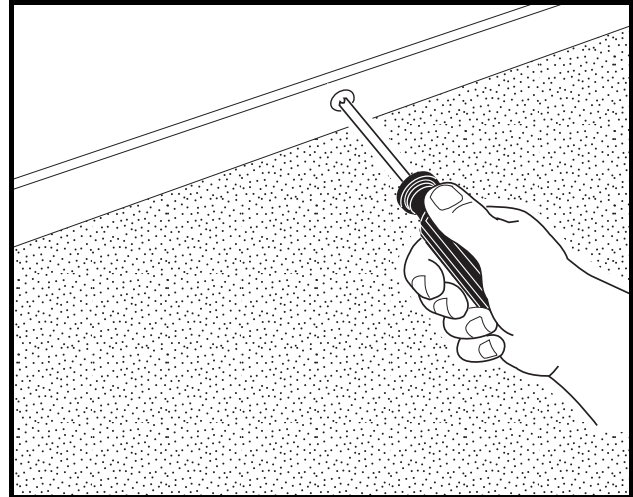

Figure 4-19 Kick-Plate Screws
5. Remove two screws, washers and nuts located at the bottom edge of the seat support panel (in kick-plate just above the floor mat) (**Figure 4-19, Page 4-16**).
- 1.1. Tighten kick-plate nuts to 48 in-lb (5.4 N·m) while holding the kick-plate screws (**Figure 4-19, Page 4-16**).